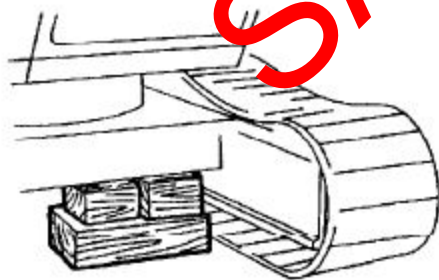

Fig 6.
- 5 Lift the side of the undercarriage high enough to permit drive sprocket removal. Support with wooden blocks ⇒ Fig 6. \(□ F-6\).